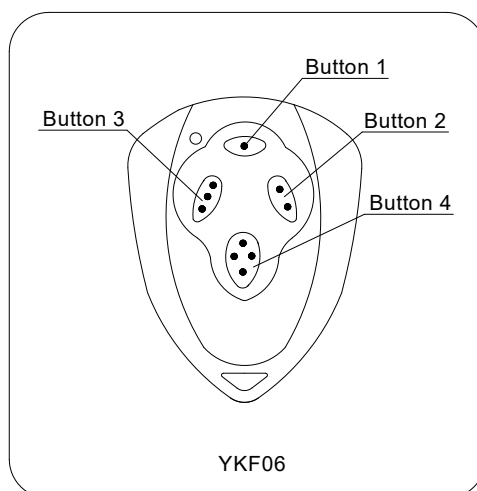

Fig.10 Remote control
- The remote control works in a single channel mode. It has four buttons. See Fig.10 The function of button 1, button 2 and button3 are the same. With each press of the remote control button which has been programmed, the gate will close, stop, open or stop cycle.